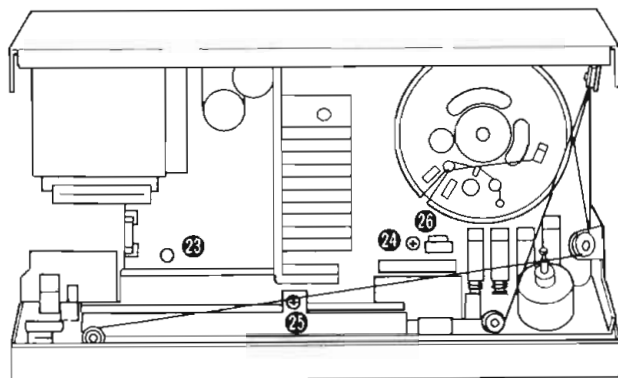

Fig. 6
5. Remove the 3 setscrews (Fig. 6 : **(23) ~ (25)**) and 1 connector (Fig. 6 : **(26)**)